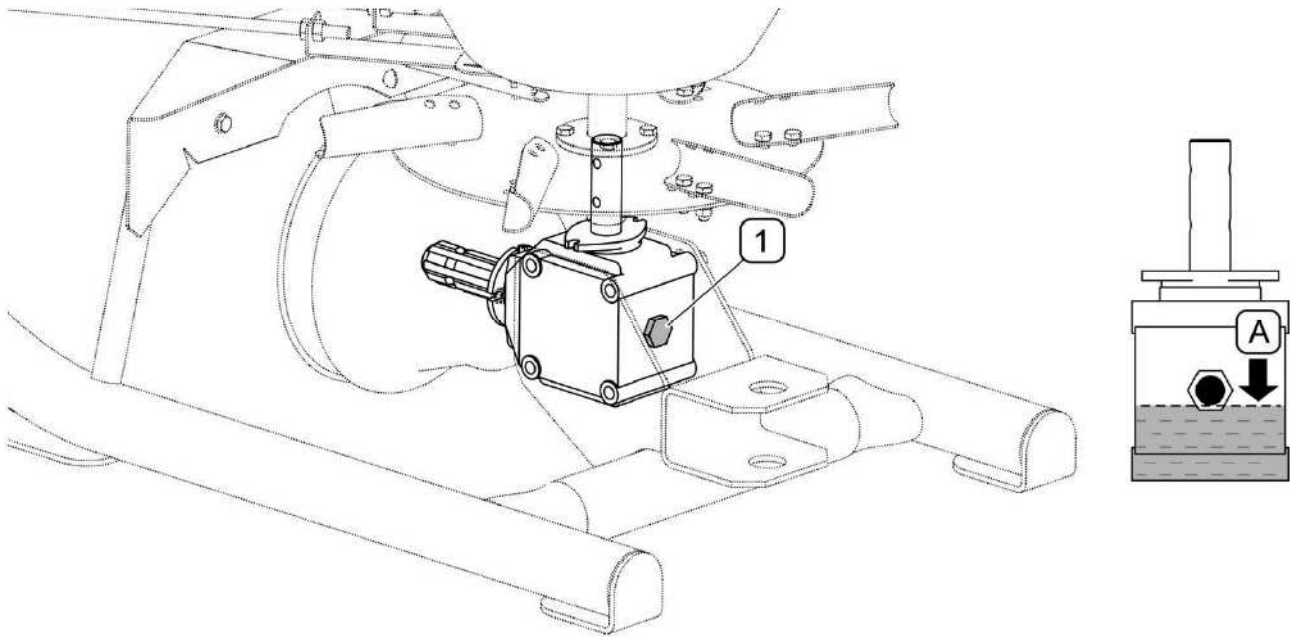

FIG. 5.1 **Checking grease level in intersecting axis gear**
In order to check level of lubricant in intersecting axis gear, set the machine horizontally and unscrew plug (1). Proper grease level should reach the lower edge of the plug opening (1). If necessary, supplement grease to the required level (FIG. 5.1).